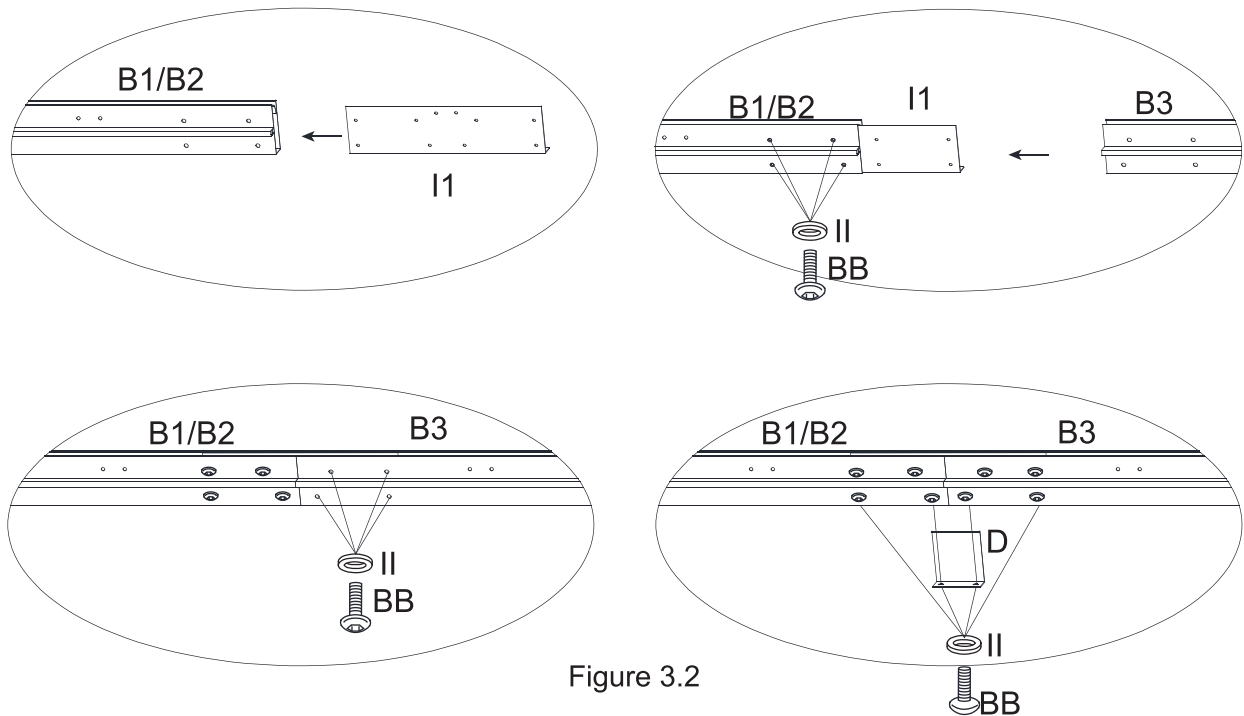

Figure 3.2
3.2. Connect the Lintel (B3) with the Lintel (B1/B2) through the Lintel Connector - Large (I1) by bolt (BB) and washer (II), then put the Lintel Cover - Center (D) onto the joint of the two lintels with bolt (BB) and washer (II), pay attention to install the screws based on the orders shown in the illustration. See Figure 3.2.